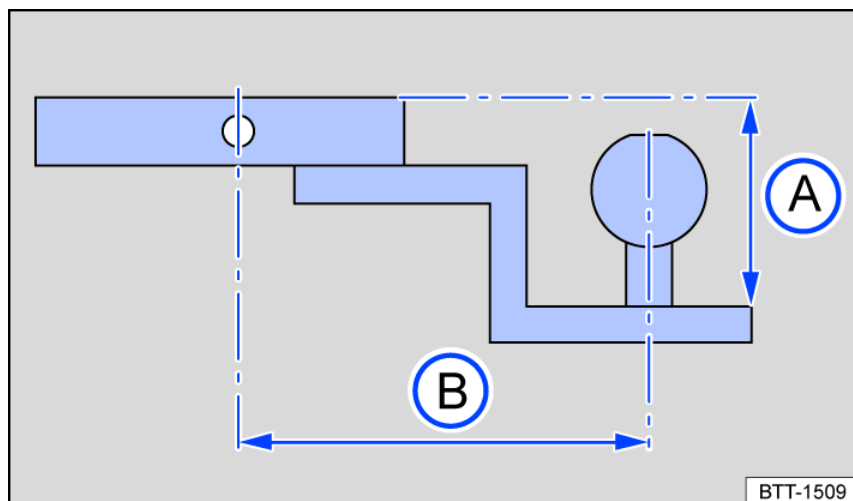

Fig. 177 Dimensions of the ball mount holder and receptacle.
The mount requires a special shape and size of ball mount holder and ball mount. This affects both the suspended height of the ball coupling fig. 177 A and the distance between the socket pin and the ball coupling fig. 177 B.
- The suspended height fig. 177 A from the top of the ball mount to the top of the neck must be at least 25.4 mm (1 inch) and must not exceed 73 mm (2⁷/₈ inches).
- The distance between the socket pin and the ball mount fig. 177 B must not exceed 178 mm (7 inches) from the middle of the ball mount to the middle of the eye of the pin.